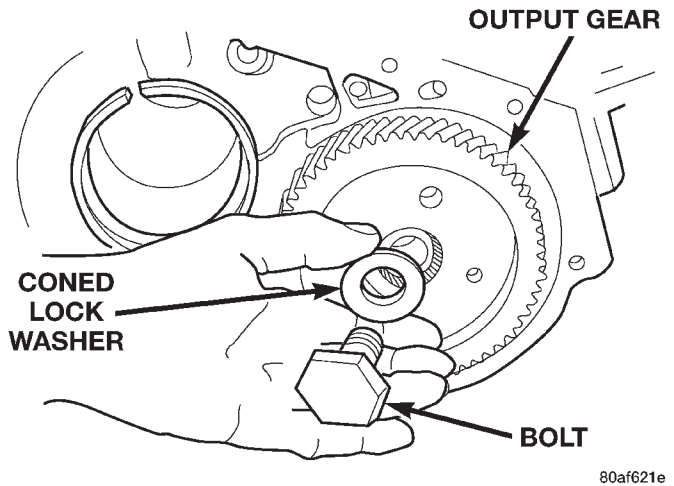
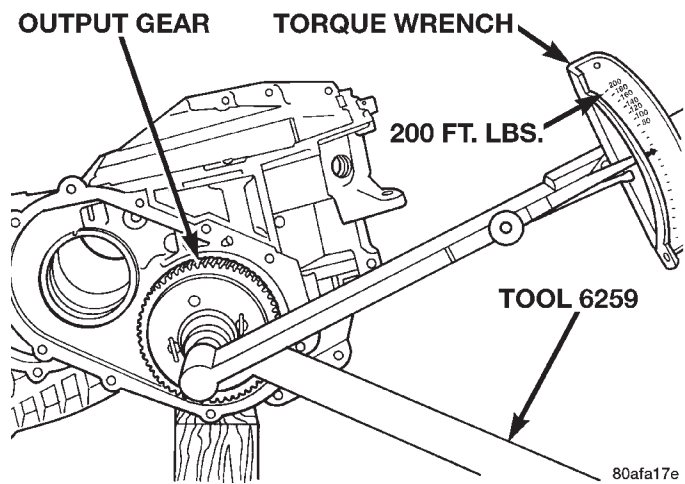

Fig. 243 Install Output Gear Bolt and Washer
Fig. 244 Tighten Output Gear to 271 N•m (200 ft. lbs.)
(9) Install the new retaining bolt and washer (Fig. 243). Tighten to 271 N•m (200 ft. lbs.) (Fig. 244).